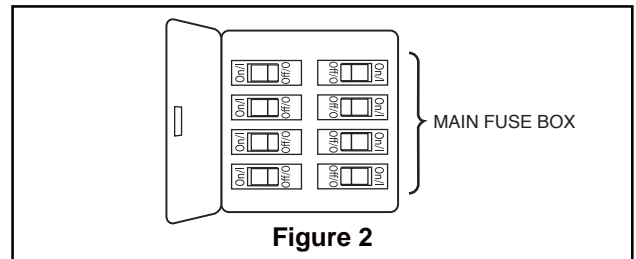

Figure 2
**To avoid possible electrical shock, be sure electricity is turned off at the main fuse box before hanging (Figure 2).**